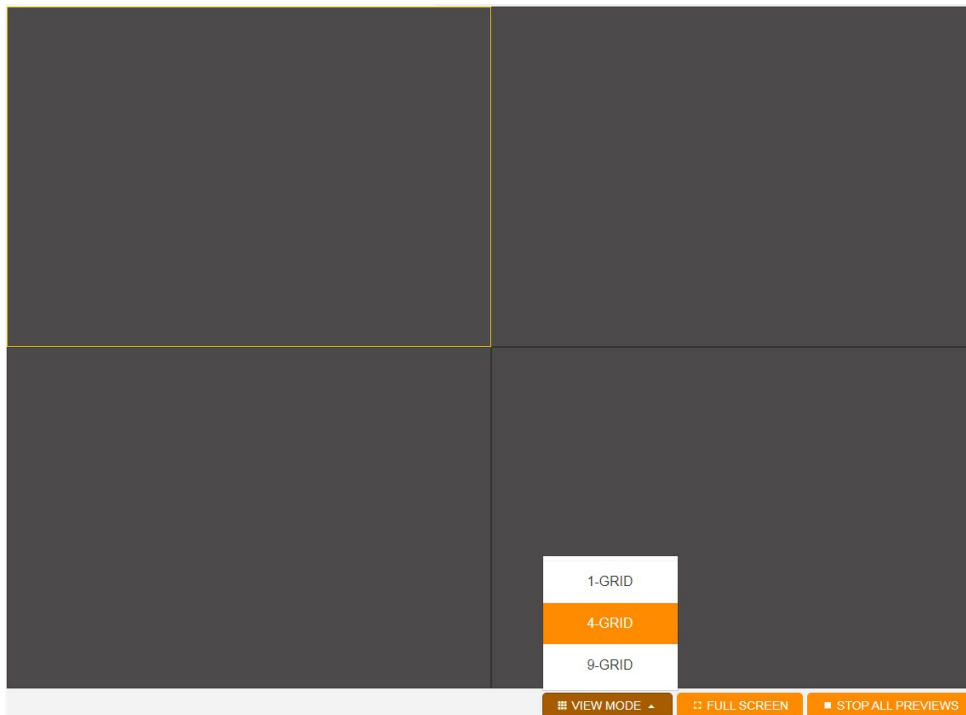

Figure 14-22 Switching between view modes
1. Click **VIEW MODE** at the bottom of the page. The system displays all available view modes, including **1-GRID**, **4-GRID**, and **9-GRID**, as shown in Figure 14-22.